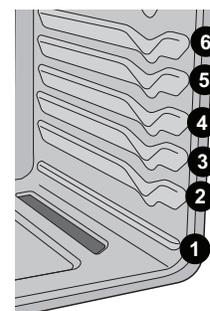

Figure 21: Rack positions
2. Position bakeware in oven to the preferred rack position (See Figure 21).